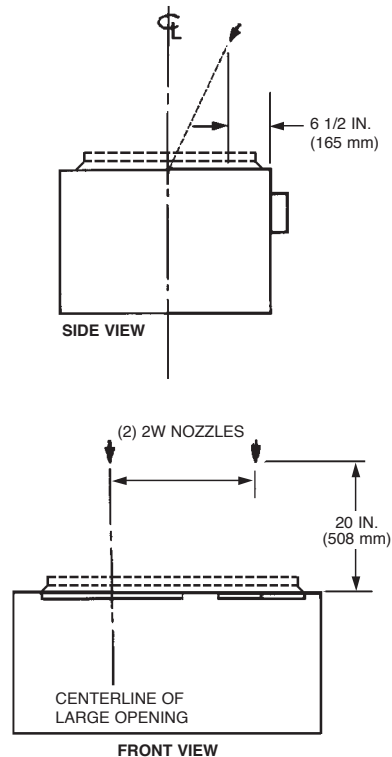

FIGURE 4-99
- Nozzle Height:** 20 in. (508 mm) above top of appliance. See Figure 4-99
- Nozzle Location for Large Chamber:** 6 1/2 in. (165 mm) back from front edge of appliance. See Figure 4-99
- Nozzle Aiming Point for Large Chamber:** Aimed at center of opening. See Figure 4-99